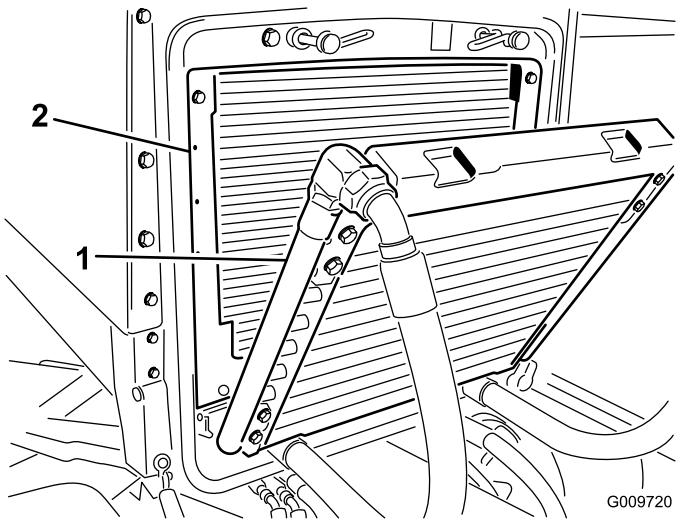

Figure 57
4. Clean both sides of the oil cooler and radiator area (Figure 57) thoroughly with compressed air.